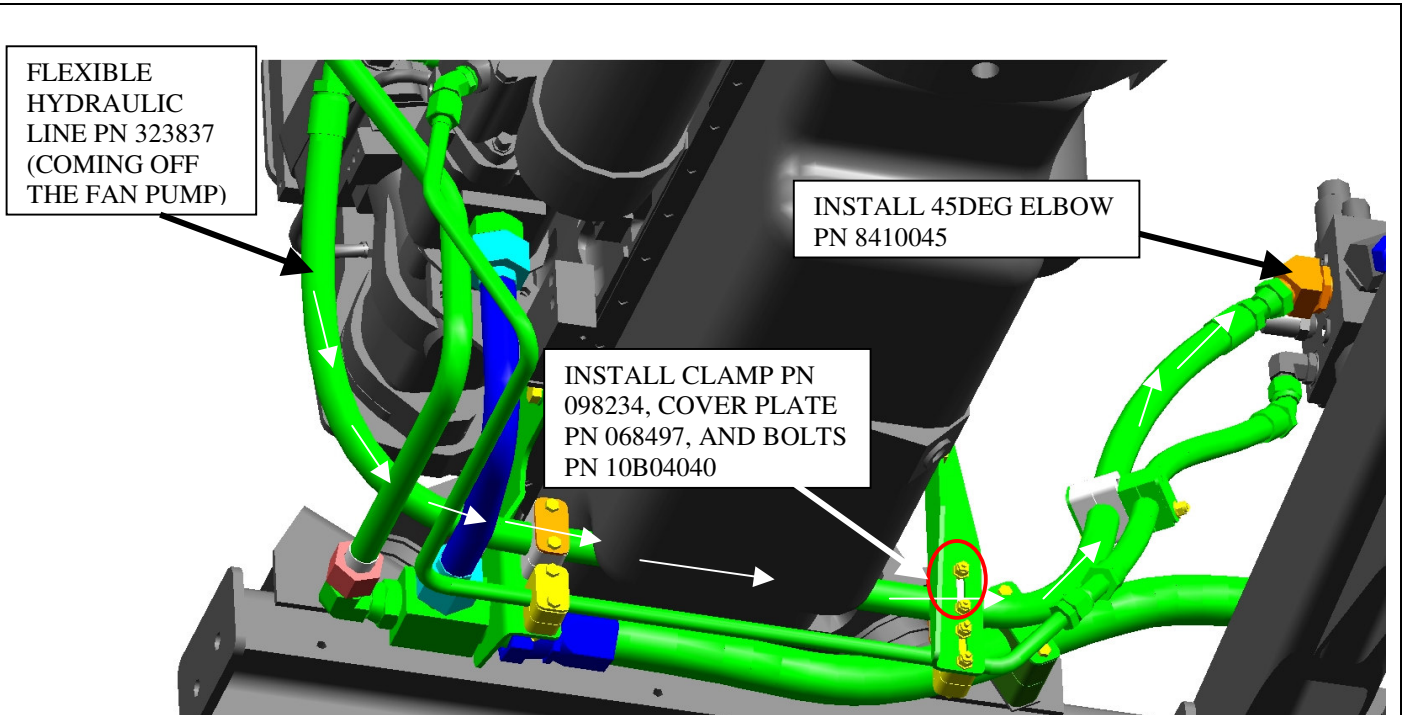

**Figure 1C – Hydraulic Tube Assembly**
5. Install a 45 degree elbow (NF PN 8410045) on the hydraulic manifold as depicted on Figure 1C.